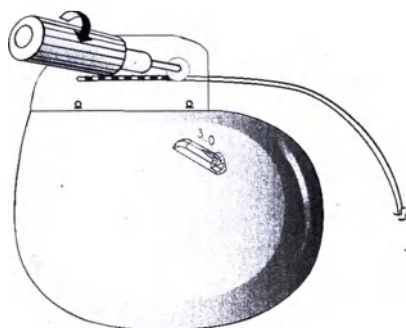

Figure 2. Tightening the setscrew in the self-sealing grommet.
4. Fully insert the torque wrench into the self-sealing grommet of the connector block and tighten setscrew (Figure 2).
Note: The torque wrench must be oriented to the same angle as the setscrew (Figure 2).